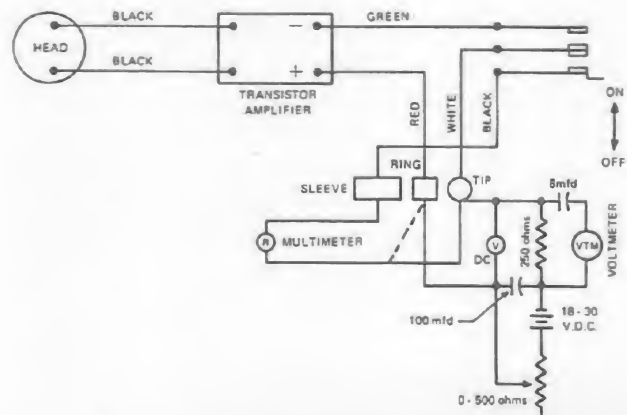
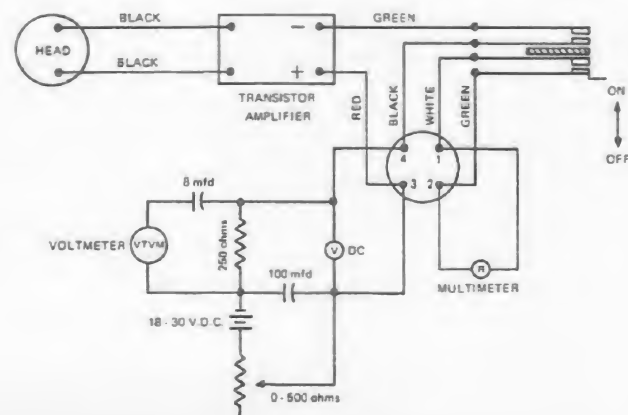

Figure 3 - Test Set-up (3 wire connection)
Figure 4 - Test Set-up (4 wire connection)
11. **Check of Microphone Output.** The best procedure for testing the microphone is to compare its output with one known to be operating properly, using the test set-up shown in Figure 3, or Figure 4. Check the output voltage as follows: